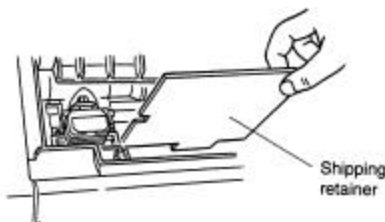

Figure 1, Shipping Retainer Removal
20. Remove the Printer (0528-0032-01) from its carton. Remove all tape from the lower printer and remove the carriage cover to gain access to the print head. Referring to Figure 1, ensure that the printer ribbon cartridge is installed properly and remove the plastic stop securing the print head.